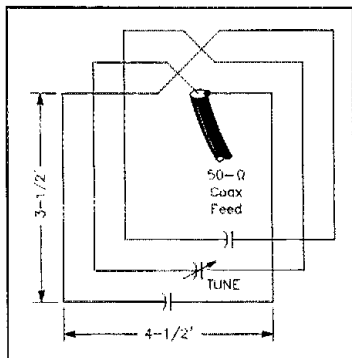

Fig 1—The three-turn loop antenna for 40 meters. Each capacitor is about 40 pF to resonate and match the antenna to a 50- $\Omega$  feed line.
Fig 1—The OH2GF synchronous detector operates in the 450- to 455-kHz region. Except as otherwise specified, its fixed-value resistors are 1/4-W, 5%-tolerance units, and its capacitors' working voltages can be 10 or higher. See the 1993 *ARRL Handbook's* Chapter 35, Component Data, for the full addresses of the part suppliers mentioned below. Be sure to check *QST* ads for additional part sources for this project.
Fig A—A simple bipolar junction transistor emitter follower (1) can connect the synchronous detector to a solid-state transceiver. As shown at 2, the synchronous detector can be driven from the unypassed cathode resistor of a vacuum-tube receiver's final IF stage. (The WJ1Z Drake SW-4A receiver required other changes, including AGC redesign for low distortion at high signal levels.) If you lack the equipment necessary to adjust these circuits for OH2GF's suggested drive level of 15 mV P-P, just keep the detector drive comfortably below that at which distortion begins. Likewise, if you can't measure the VCO level across L1, just stick with the 220-Ω value Fig 1 shows for R3—it's in the ballpark.
technique. This can be done by adding one more turn, tuned identically, connecting the two turns *in series*, and re-resonating the antenna. Now, looking into one of the twin current nodes, the input impedance will have roughly quadrupled. The one-turn loop's skimpy 5 or 6  $\Omega$  rises to approximately 25  $\Omega$ . Adding yet another such turn doubles this to about 50  $\Omega$ —a convenient match to common coax. See Fig 1. As with the folded dipole, more than four turns are unprofitable; diminishing returns raise the input impedance little faster than ohmic resistance. Note that the tuning capacitances, each about 40 pF, must be kept nearly equal for overall system balance.
Fig 2—Extending the Fig 1 concept to 80 and 160 meters requires adding another turn to the antenna and increasing the capacitances. See the text for capacitor values.
Two keyer versions are shown schematically in Figs 1 and 2. With these two circuits, all of the Curtis chip variations are provided for. (See the sidebar, "Goodbye, Older
Fig 1—Schematic of the 16- and 18-pin keyer circuit. Part numbers in parentheses are Radio Shack; equivalent parts can be substituted. Unless otherwise specified, resistors are 1/4-W, 5%-tolerance carbon-composition or film units.
Fig 2—Schematic of the 20-pin 8044ABM keyer circuit. Part numbers in parentheses are Radio Shack; equivalent parts can be substituted. Unless otherwise specified, resistors are 1/4-W, 5%-tolerance carbon-composition or film units. See Fig 1 for repeated components.
If you want to install a keyer inside your rig, you can reduce the front-to-back dimension of the keyer by using just the paddle portion of the circuits of Figs 1 and 2. A three-wire line, configured according to your rig's instruction book, lets IROESON key your transmitter as you would with any set of paddles. A 0.01-μF disc-ceramic capacitor from each output line to ground provides a modicum of RF bypassing.